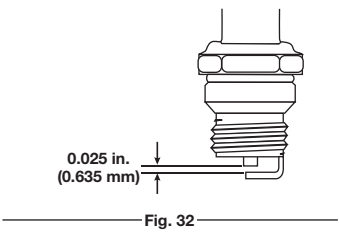

Fig. 32
5. Replace cracked, fouled or dirty spark plug. Set the spark gap at 0.025 in. (0.635 mm) using a feeler gauge (Fig. 32).